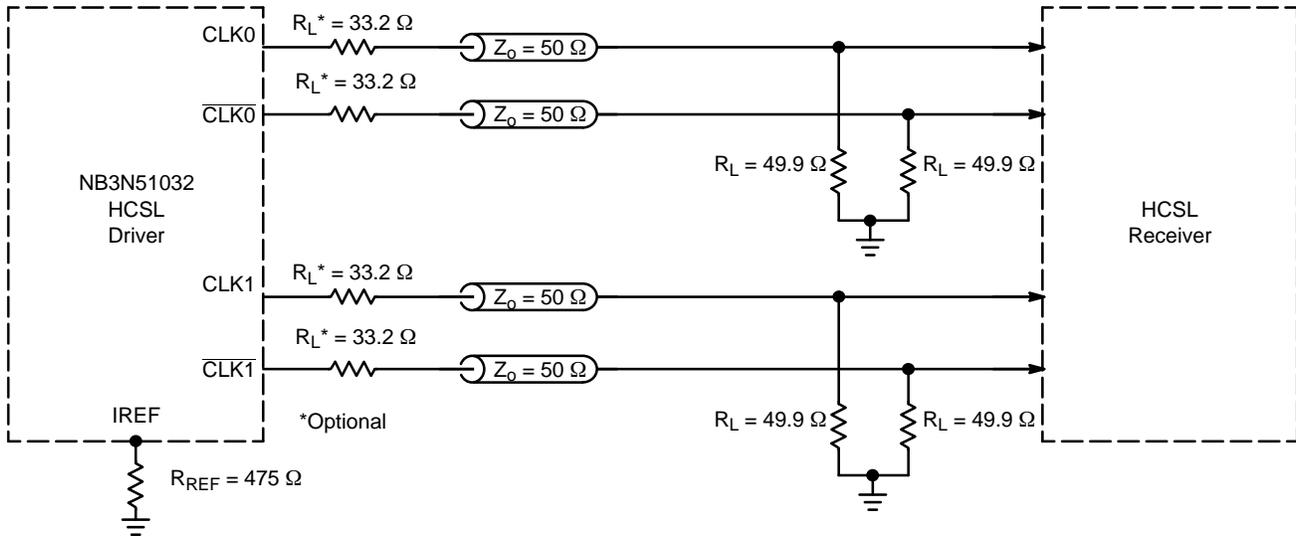
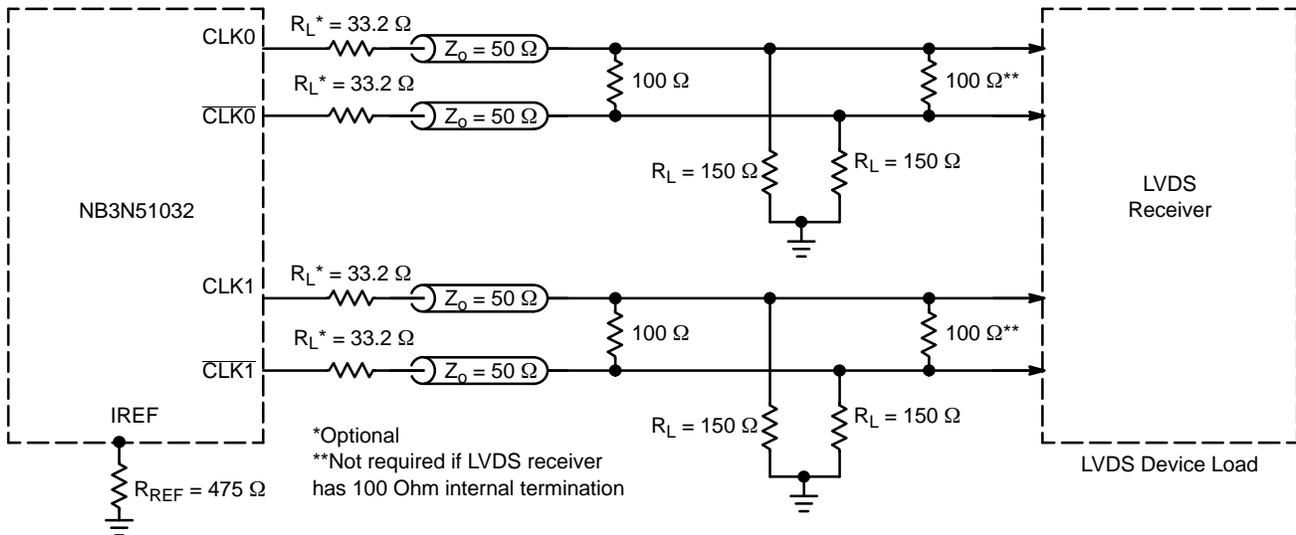

Figure 9. Typical Termination for Output Driver and Device Evaluation
Figure 10. Typical Termination for LVDS Device Load
4. VDDXD and VDDODA power pins must be shorted to power supply voltage V_{DD} and GNDXD and GNDODA ground pins must be shorted to power supply ground GND. Measurement taken with outputs terminated with R_S = 33.2 Ω, R_L = 49.9 Ω, with test load capacitance of 2 pF and current biasing resistor set at 475 Ω. See Figure 9. Guaranteed by characterization.
9. VDDXD and VDDODA power pins must be shorted to power supply voltage V_{DD} and GNDXD and GNDODA ground pins must be shorted to power supply ground GND. Measurement taken from differential output on single-ended channel terminated with $R_S = 33.2 \Omega$, $R_L = 49.9 \Omega$, with test load capacitance of 2 pF and current biasing resistor set at 475 Ω . See Figure 9. Guaranteed by characterization.
The outputs can be terminated to drive HCSL receiver (see Figure 9) or LVDS receiver (see Figure 10). HCSL output interface requires $49.9\ \Omega$ termination resistors to GND for generating the output levels. LVDS output